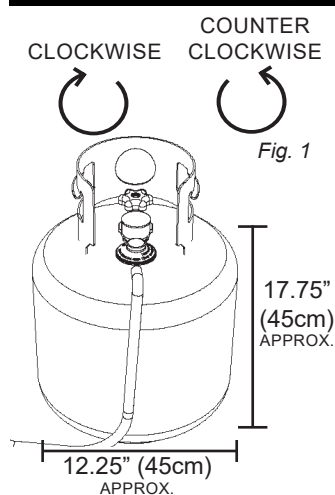

Fig. 1
4. Center and insert regulator nipple into valve outlet on gas cylinder (Fig. 1). Turn regulator coupling nut clockwise until it stops. **DO NOT OVER TIGHTEN.**